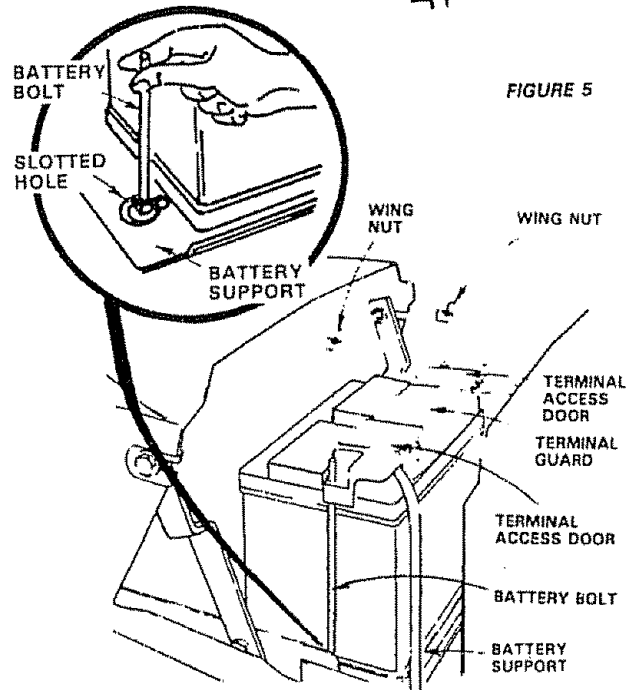

FIGURE 6
- g. Using the slotted hole on one side of the battery support (Fig. 6) insert one battery bolt into frame slot (head of bolt down). Fasten the battery bolt to the terminal guard using wing nut. (Bolts, nuts and terminal guard found in bag of parts)
- h. Assemble the remaining bolt to other side of battery support and fasten terminal guard to it with remaining wing nut (shown full size below). Tighten wing nuts securely by hand (Fig. 6).
NOTE: USE TERMINAL ACCESS DOORS (FIG. 6) FOR: